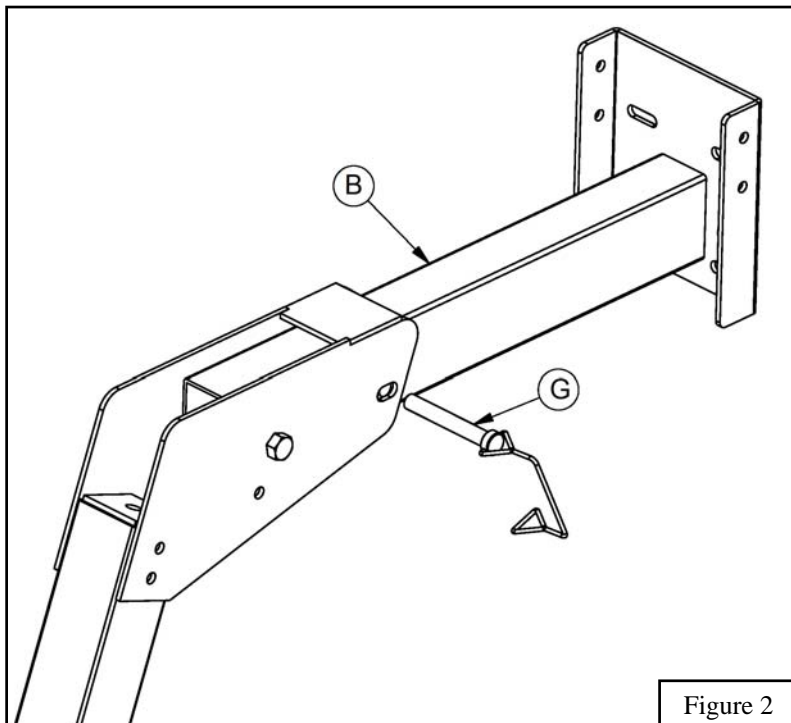

Figure 2
3. Remove the hand knob and bolt from the extension arm bracket. Raise the *Extension Arm* (B). Secure it in place with the *Locking Pin* (G). See Figure 2.